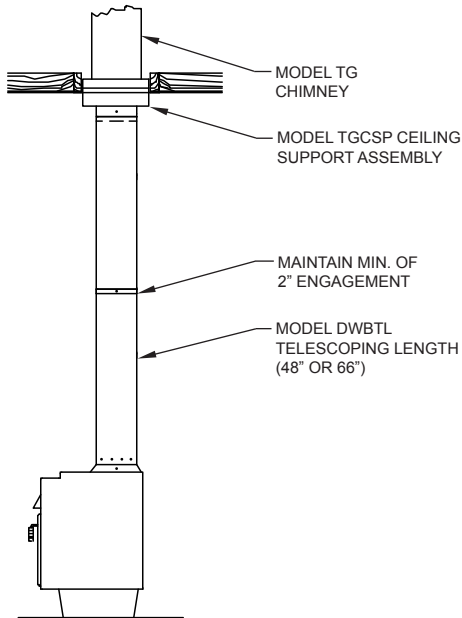

FIG. 1
- Extend the upper portion of the DWBTL to engage the crimped portion of the chimney ceiling support. Secure with sheet metal screws (See **FIG. 1**).